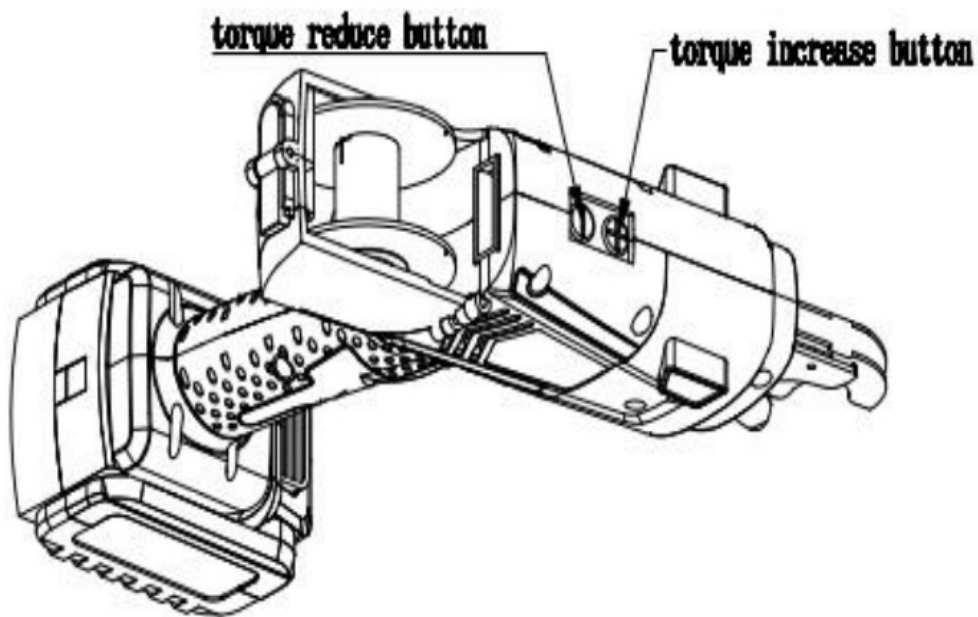

Figure 3
7. Torque Adjusting(see figure 3). Adjust torque when the knot tightness is improper. Press the “+” button to increase the torque when the knot is loose (the factory setting is 4th level). The buzzer sounds according to the related level, e.g there are 4 buzzer sounds when the torque is on 4th level. Press “-” button when the knot is too tight(the knot is easy to be broken).